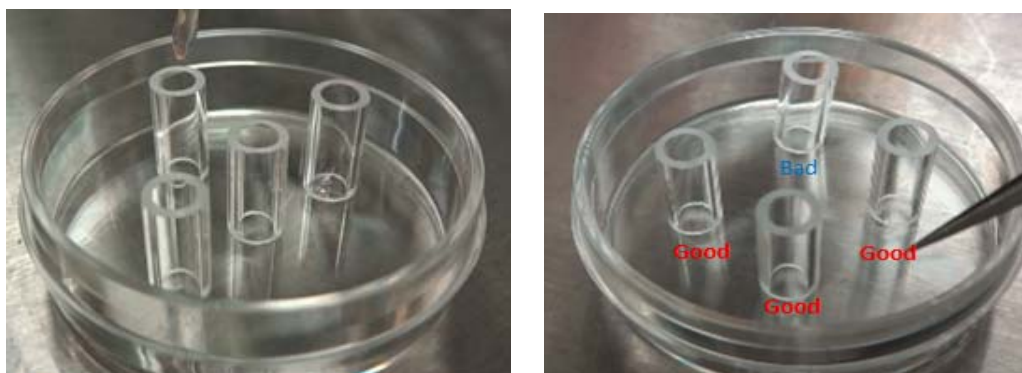

Figure 2-1. Cloning ring placed in a petri dish (left). Shake it and select only cloning rings that do NOT move (right).
1. Place the cloning rings in a petri dish (Figure 2-1, Left).
2. Shake the petri dish. Select only cloning rings that do NOT move (Figure 2-1, Right).